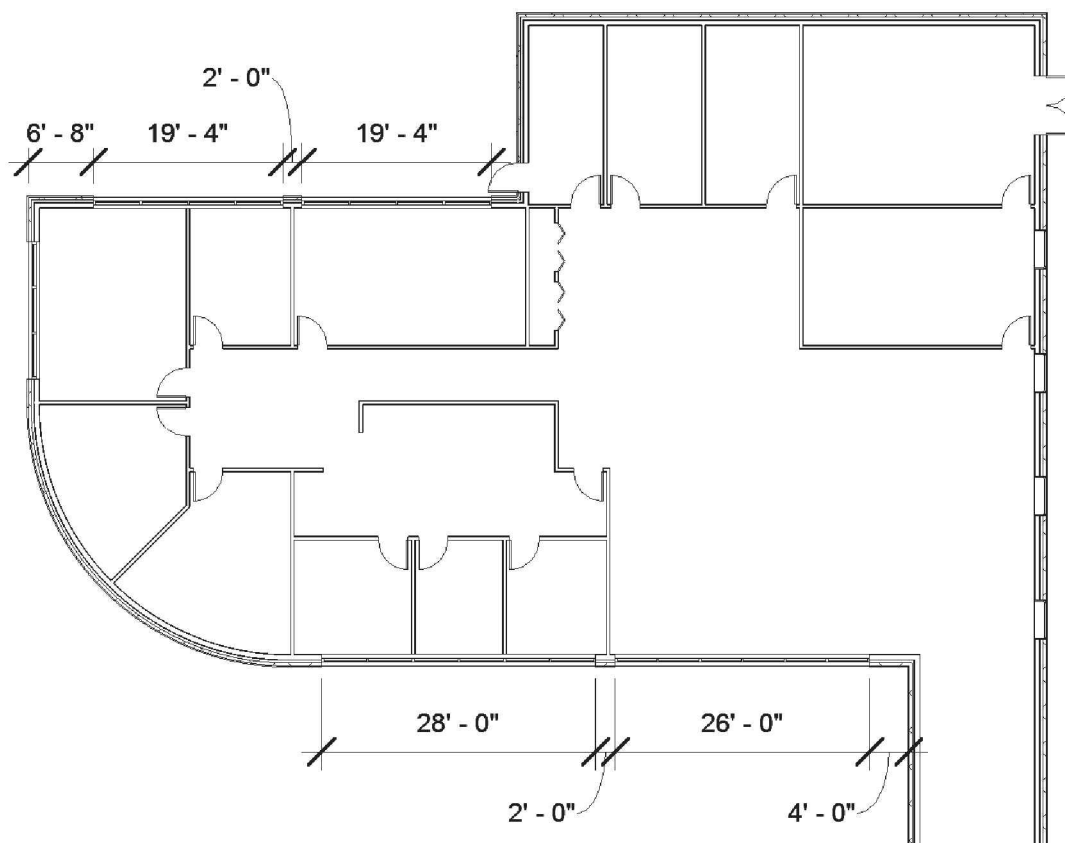

FIGURE 5-4.28 Storefront – additional Level 1 locations
- h. See Figure 5-4.28 for locations.